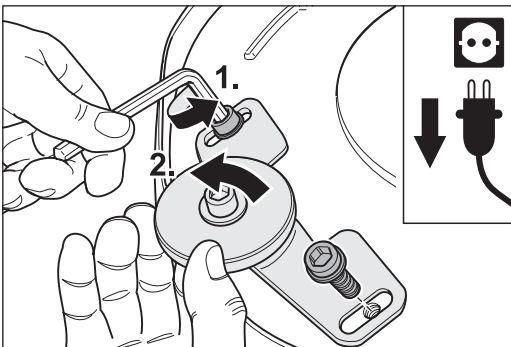

Fig. 79 Remove the screws on the wall-protecting wheel bracket and then remove the complete wall-protecting wheel.
- 3 Remove the two screws with which the wall-protecting wheel is fastened to the attachment and then remove the complete wall-protecting wheel (Fig. 79).